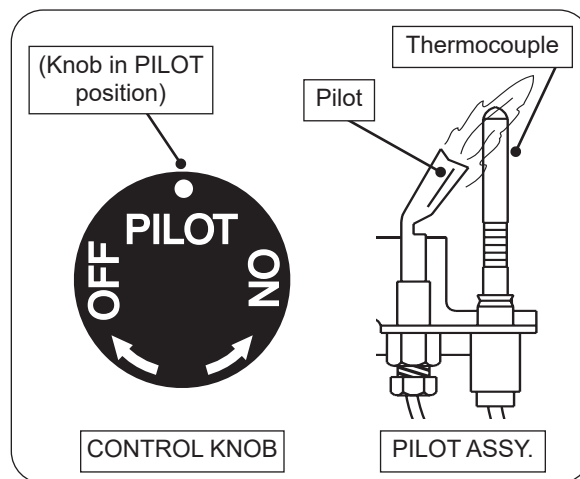

Fig. 25-1 Pilot lighting
3. Locate the pilot assembly on the side or rear of the burner pan (see Fig. 25-1).
4. Turn the control knob counterclockwise ↺ to **PILOT**. Push the knob **firmly and fully** in and hold. Hold a lighted long-stem match/ long-necked butane lighter near the thermocouple to light the pilot. Continue to hold the knob in for about one (1) minute after the pilot is lit. Release the knob and it will pop back out. The pilot will remain lit. See Fig. 25-1. If it goes out, repeat steps 2-4.